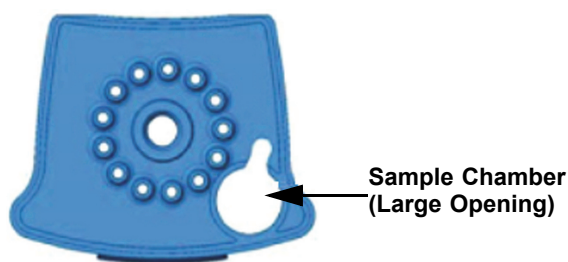

Figure 1. Xpert MRSA NxG Test Cartridge (Top View)
4. Open the cartridge lid. Using a transfer pipette (not provided), transfer the entire contents of the Elution Reagent vial to the Sample Chamber of the Xpert MRSA NxG test cartridge. See Figure 1.
5. Open the cartridge lid. Using a transfer pipette (not provided), transfer the entire contents of the Elution Reagent vial to the Sample Chamber of the Xpert MRSA NxG test cartridge. See Figure 1.